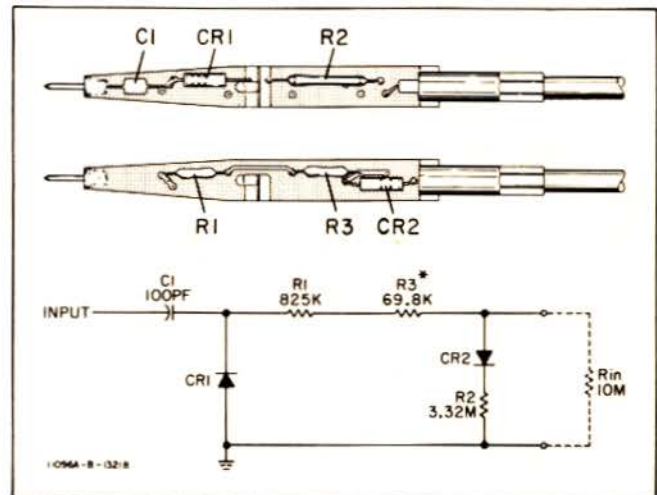

Figure 2. Schematic and Component Location
21. The 11096A High Frequency Probe is a peak detector with a voltage divider. The probe converts the ac input signal into a positive dc voltage equal to the rms value of the input. The schematic for the 11096A Probe is shown in Figure 2.
- c. Check diodes CR1 and CR2 for open or short. Refer to Figure 2 for diode location. If the probe is completely inoperative (no voltage out) the trouble is most likely an open or shorted CR1. If the probe is within specified accuracy at 3 volts and above, but reads low with input below 3 volts the trouble is most likely a shorted CR2. If the probe reads high, 0.25 volts to 30 volts the trouble is most likely an opening in the CR2, R2 branch.